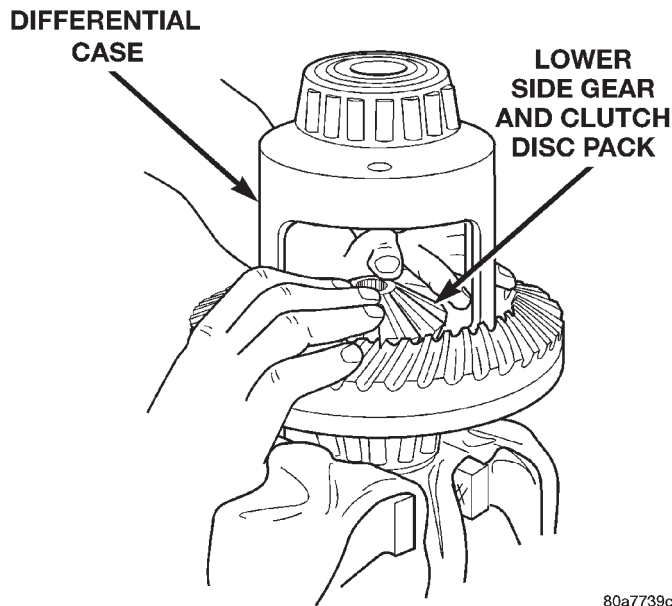

Fig. 52 Clutch Discs & Lower Side Gear Installation
(2) Position assembled clutch disc packs on the side gear hubs.
(3) Install clutch pack and side gear in the ring gear side of the differential case (Fig. 52). **Be sure clutch pack retaining clips remain in position and are seated in the case pockets.**